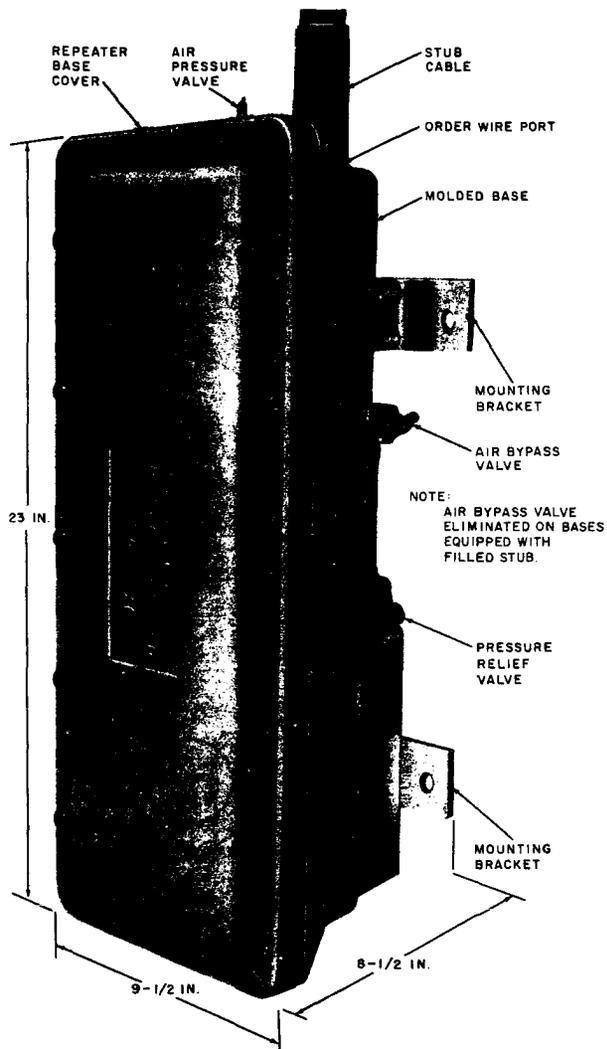
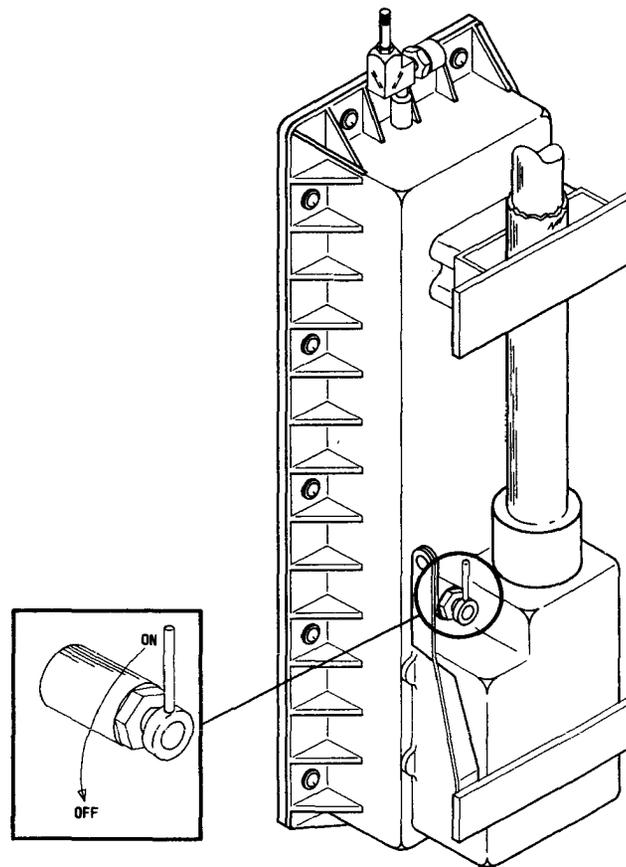

Fig. 2—81-Type Repeater Base
Fig. 3—81-Type Repeater Base With By-Pass Valve Mounted Directly on the Case
2.02 The 81-type repeater base (Fig. 2) is a plastic molded unit. The base contains the air bypass valve, pressure relief valve, order wire port, stub cable(s), and mounting hardware. The base can be used
2.03 ¶Two different pressurization systems are in existence on the 81-type repeater base. Some bases have the pressurization hardware external to the case (Fig. 2) and some have the new bypass valve mounted directly on the case (Fig. 3). The bypass tubing is completely internal to the base on units equipped with the new valve. The pressure relief
valve is mounted with the air pressure valve in the new design (Fig. 3). The new bypass valve requires only a quarter turn and is closed when the handle is perpendicular to the cable stub as shown in Fig. 3. The old bypass valve design requires several complete turns to close. ¶